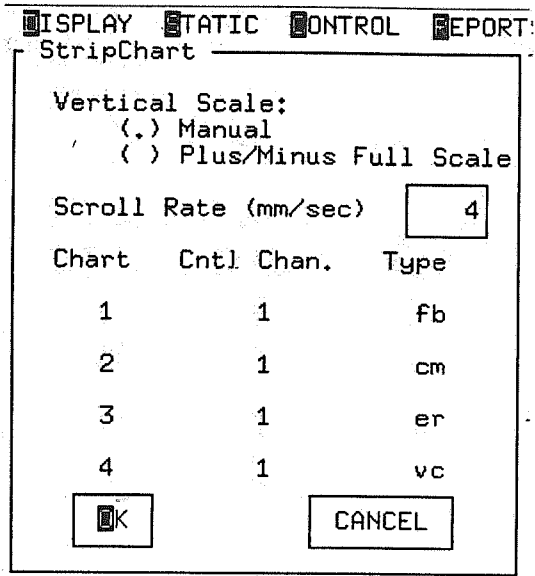

Figure 12-2 Strip Chart Dialog Box
Step 1) Select Graphs, Strip Charts option. The dialog box in **Figure 12-2** appears.